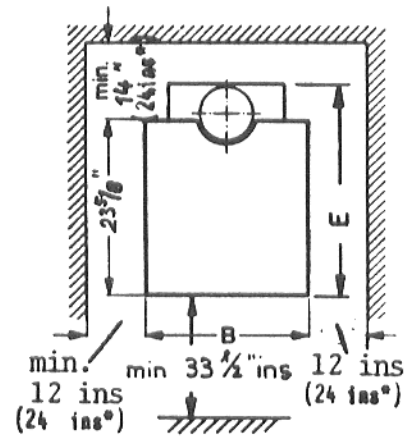

Fig. 4
1. Clearance for burner withdrawal at the front of the boiler. See Fig.4.